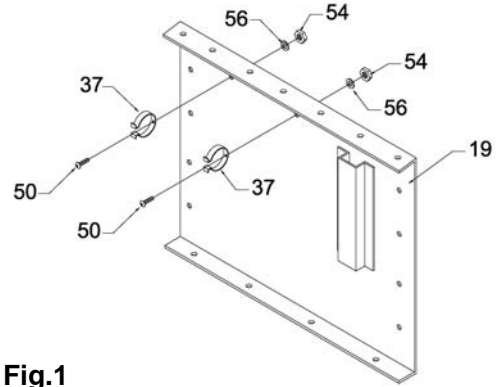

Fig.1
Step 1-- Cabinet Rear Plate Assembly see Figure 1